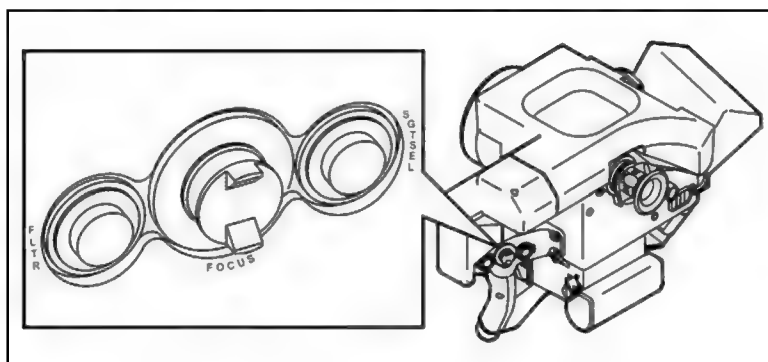

Figure 2-4. Left handgrip controls.
c. **Left Handgrip Controls.** The left handgrip has the following controls: the filter select switch (FLTR), the focus adjust switch (FOCUS), the sight select switch (SGTSEL), and the seeker trigger (Figure 2-4).
(2) **Filter Select Switch** (Figure 2-4). The filter select switch (FILTR) is the left switch on the left handgrip. It is a pushbutton switch used to select the NVS filter, this prevents the enemy from detecting the CLU using counter measure.
(3) **Focus Adjust Switch**. The focus adjust switch (FOCUS) is the center switch on the left handgrip (Figure 2-4). This switch is a self-centering toggle switch used to focus the image on the CLU display during NVS (WFOV or NFOV) operation.
(4) **Sight Select Switch** (Figure 2-4). The sight select switch (SGTSEL) is the right switch on the left handgrip. This switch is a pushbutton switch used to select between the day FOV, WFOV, NFOV, and seeker FOV. If the gunner is in seeker FOV and needs to return to the day sight or NVS, he presses the SGTSEL switch.